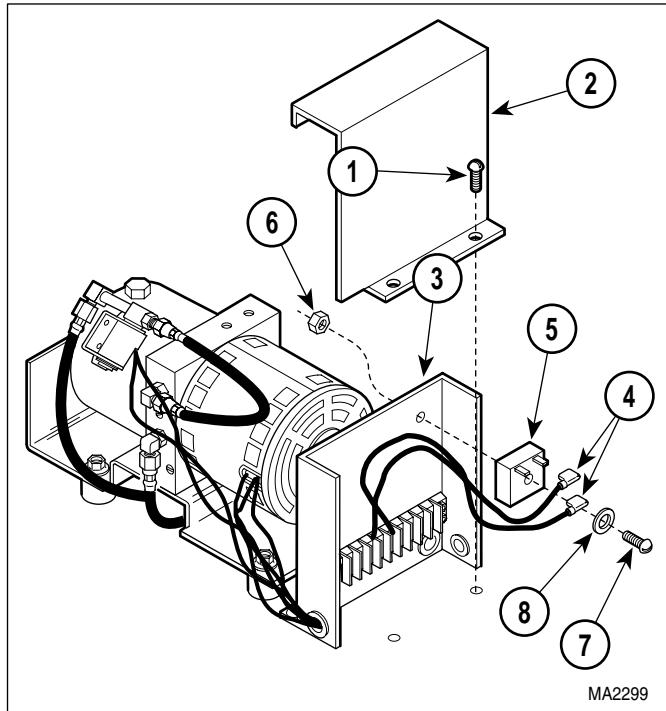

Figure 4-24. Time Delay Relay Removal / Installation
- (1) Unplug table power cord from outlet.
- (2) Remove motor cover assembly (Refer to para 4.2).
- (3) Remove two screws (1, Figure 4-24) and control cover (2) from control panel (3).
- (4) Tag and disconnect two wires (4) from terminals of time delay relay (5).
- (5) Remove nut (6), screw (7), washer (8), and time delay relay (5) from control panel (3).